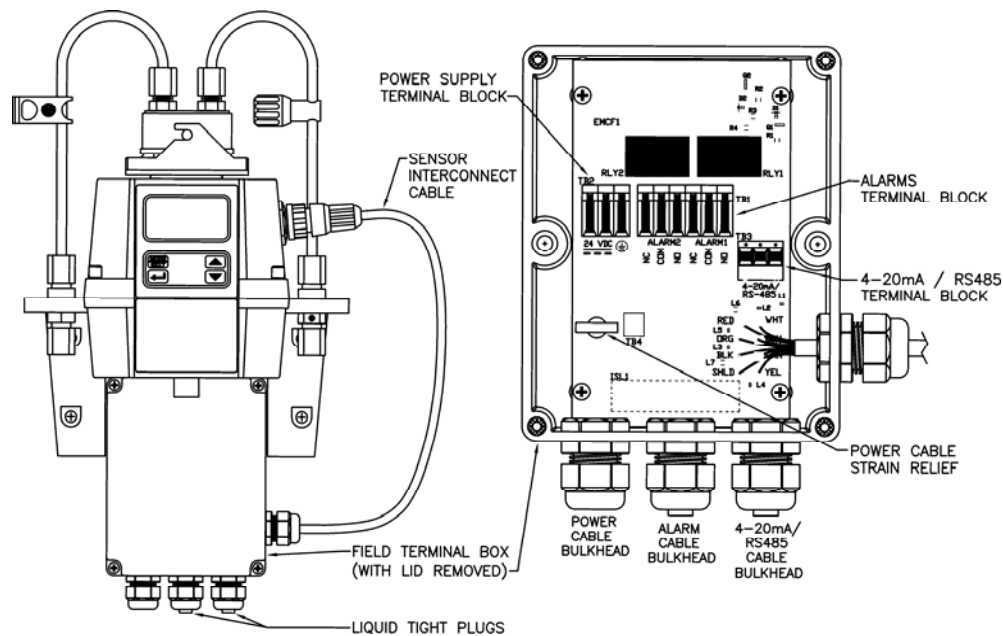

Figure 5: Electrical Connections for the Instrument
All of the electrical connections to the instrument are made through the field terminal box, which should be located directly under the sensor portion of the instrument. The connections are labeled within the terminal box and are self-descriptive (see Figure 5). Please follow all local and government recommendations and methods for installation of electrical connections to and between the instrument and other peripheral devices.
3.3.1 Power: The instrument is equipped with a 100-240 VAC, 47-63 Hz switching power supply; please verify that the line voltage falls within these specifications. It is recommended that a circuit breaker be placed prior to the power connection to allow for service. While making connections, refer to Figure 5. **The Micro TOL is not supplied with a power cord.**